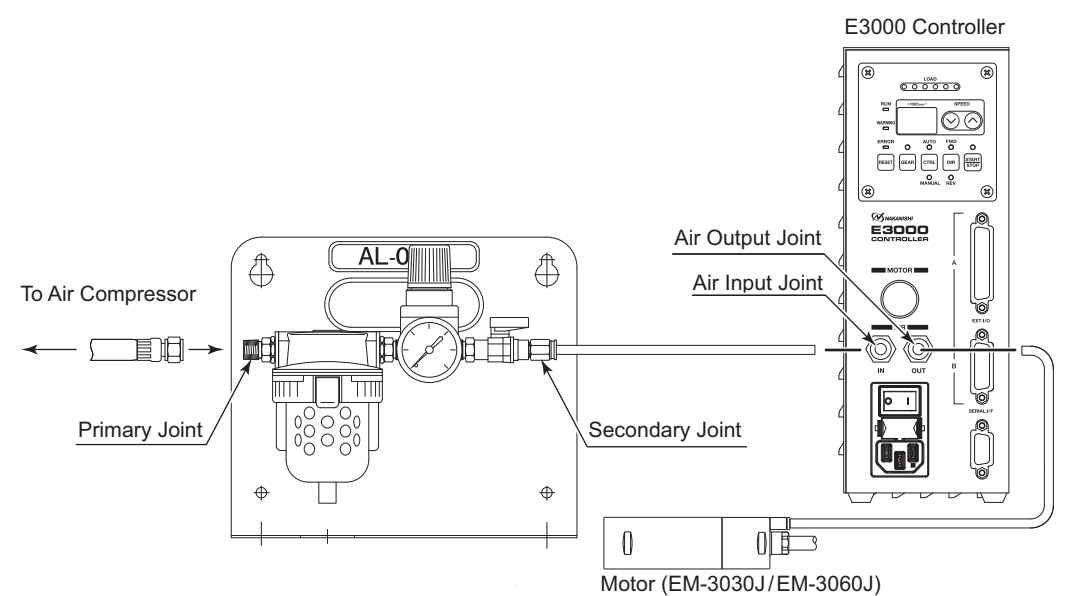

Fig. 6
- Connect the provided hose to Primary Joint. (Fig. 6)
- Connect Secondary Joint and Intake Joint on the control unit with a φ6.0mm air hose. When connecting it to Motor, use a φ4.0mm air hose and an optional reducer (φ4 - φ6 adapter). (Fig. 6)